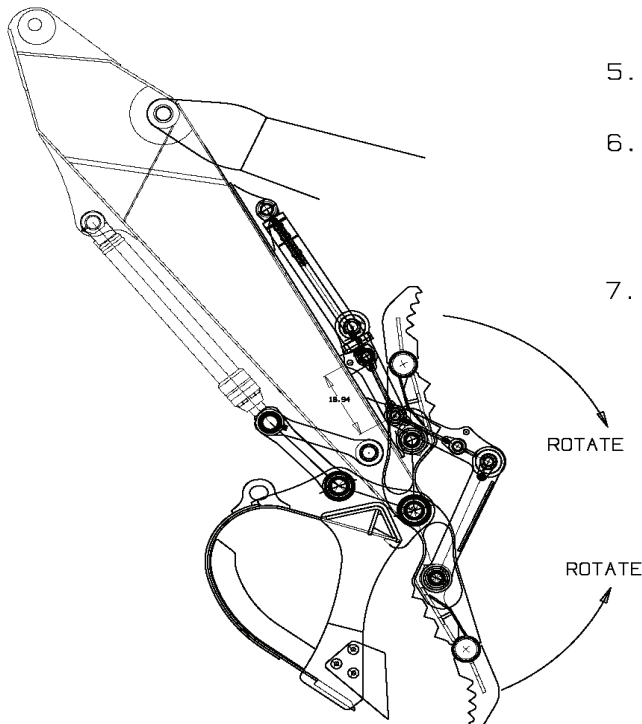

FIGURE 2
6. Check the alignment of the bucket and thumb by extending the thumb cylinder and curling the bucket into the thumb - Figure 2.